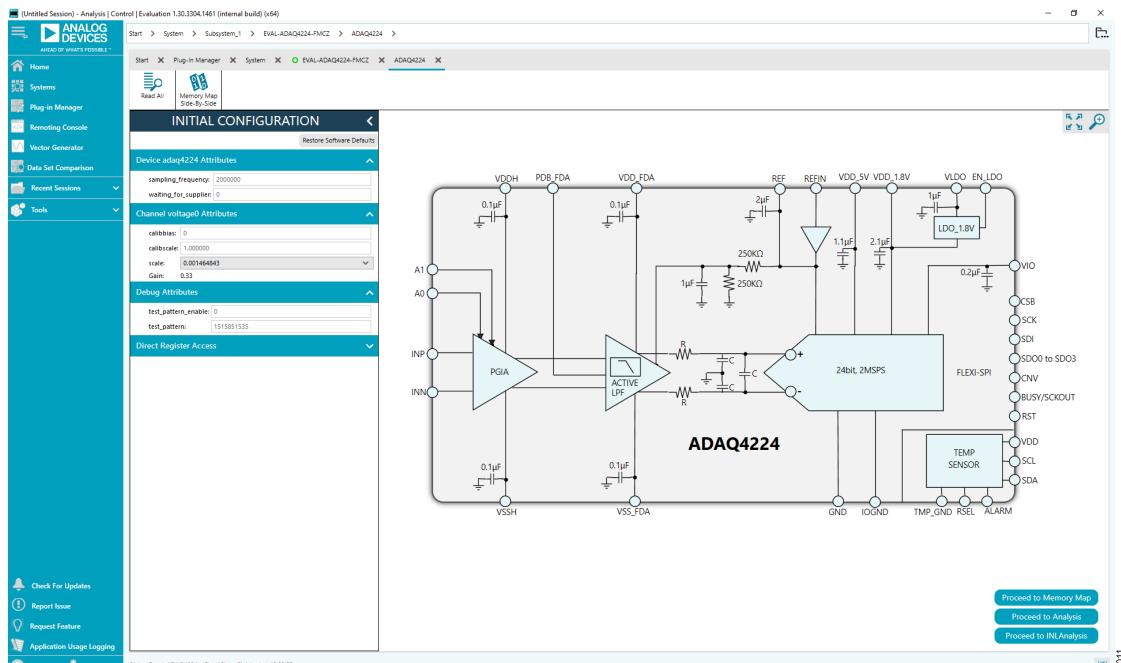

Figure 11. ADAQ4224 Chip View Window
5. Double-click **ADAQ4224** chip icon in the **Board** view tab to open the **Chip** view tab, as shown in Figure 11. The user can set the sampling frequency, calibration registers, and the gain on the **Chip** view tab. Click **Restore Software Defaults** button to change back to the default settings.